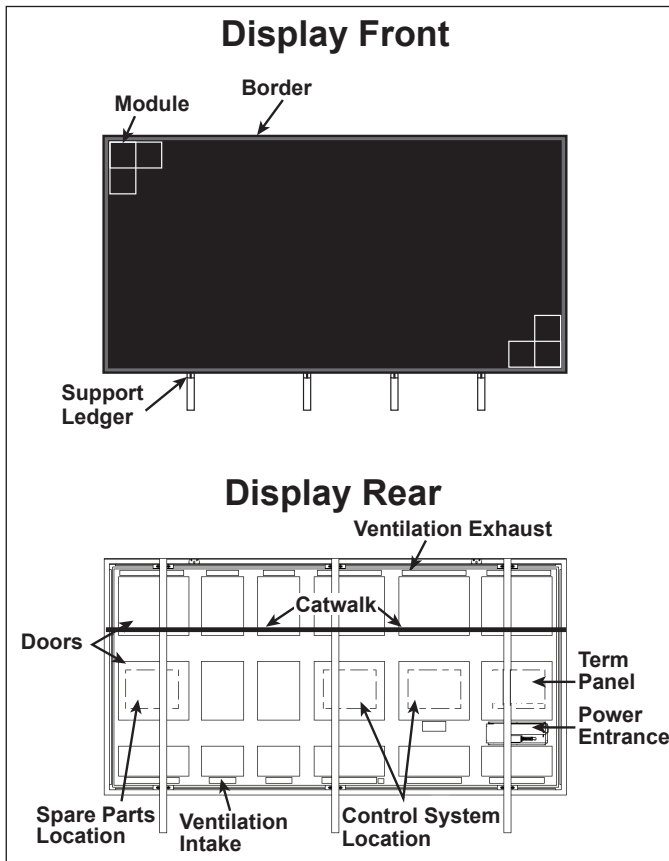
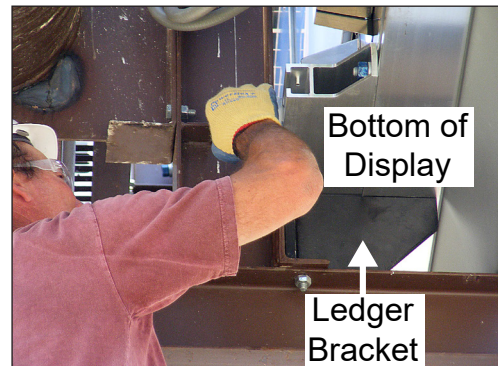

Figure 2: 66 Series Display Front and Back
Figure 4: Display Resting on Ledger
Figure 2 provides a general overview of display components in a poster (11' x 22') display. Refer to display-specific drawings to identify component locations as they vary by display size.
16. Verify the display is resting on all ledger brackets. If the display is not resting on all ledger brackets, shim the ledger bracket until it is in contact with the display. Refer to **Figure 4**.
Note: The support ledger is provided by the customer prior to display installation. Refer to **Figure 2** and **Figure 4**.